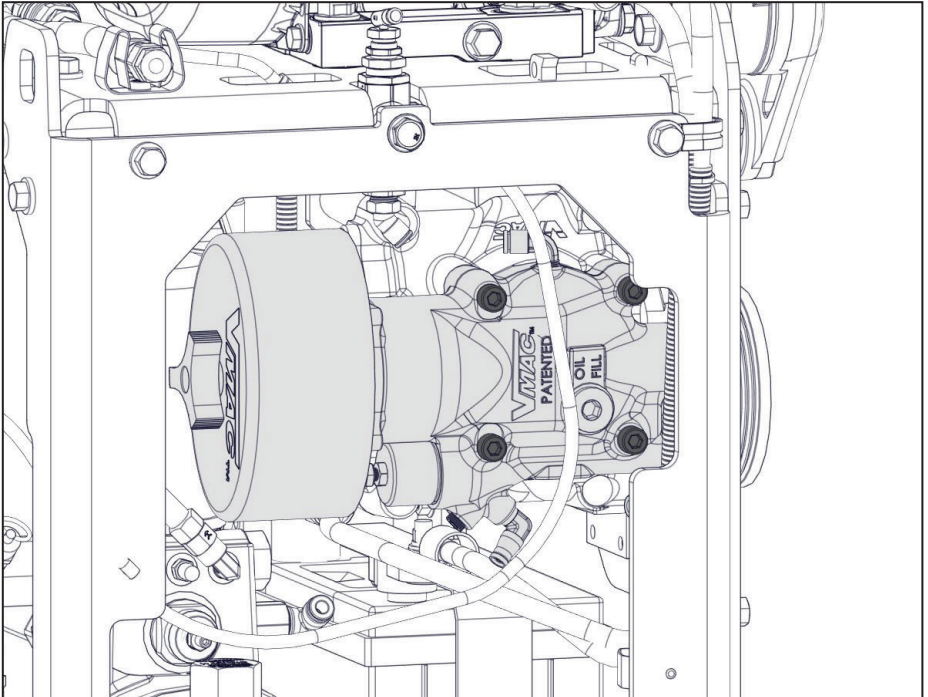

Figure 68 — Inlet valve fasteners
Installing the inlet bolts in the wrong location could severely damage the compressor (Figure 68).
- Remove the (x4) socket head bolts securing the inlet valve to the compressor (Figure 68).